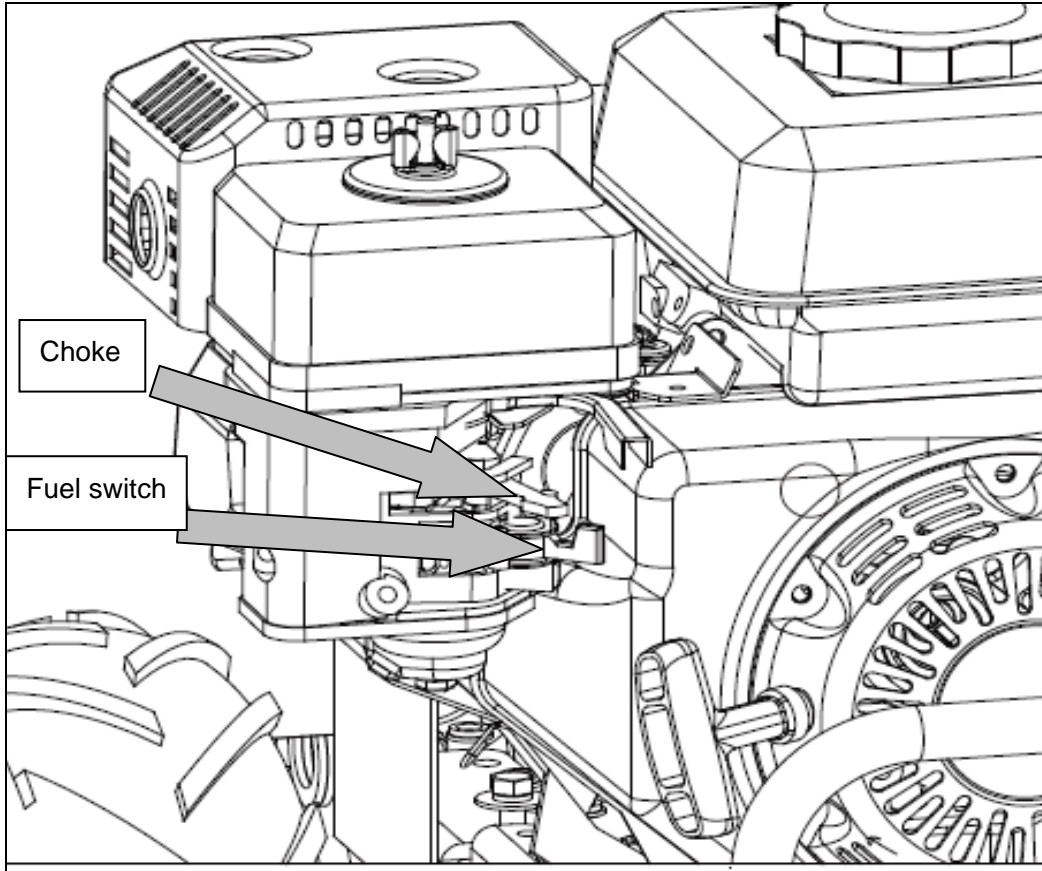

Fig.22
1. Move the choke lever to full choke position (to the left end position) (Fig.22)
3. Move the fuel switch to the left position to disconnect the fuel supply to the engine. (Fig.22)